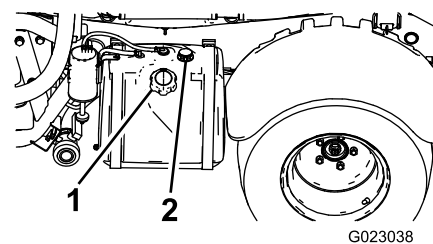

Figure 10
2. Clean the area around the fuel-tank cap (Figure 10).